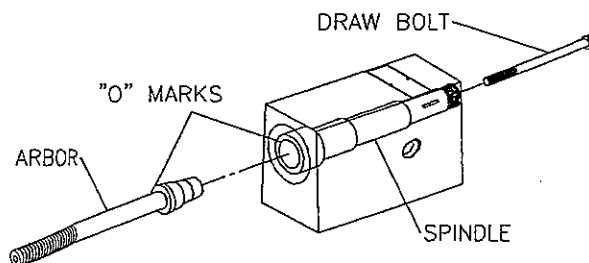

Fig.11 Changing lathe arbor
- 1 Loosen the draw bolt three or four turns using an Allen wrench. See fig.11.